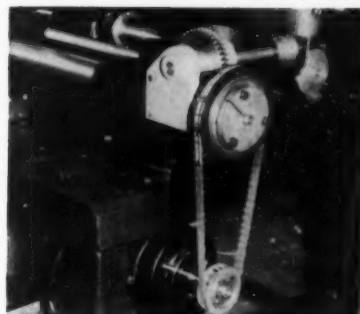

Fig. 12. Electronic zoom attachment for Tel-Animastand.
S.O.S. Cinema Supply Corp. has introduced a new electronic zoom (Fig. 12) as an accessory to their Tel-Animastand animation stand. The device allows zooms to be made electrically, replacing the older hand-operated method.